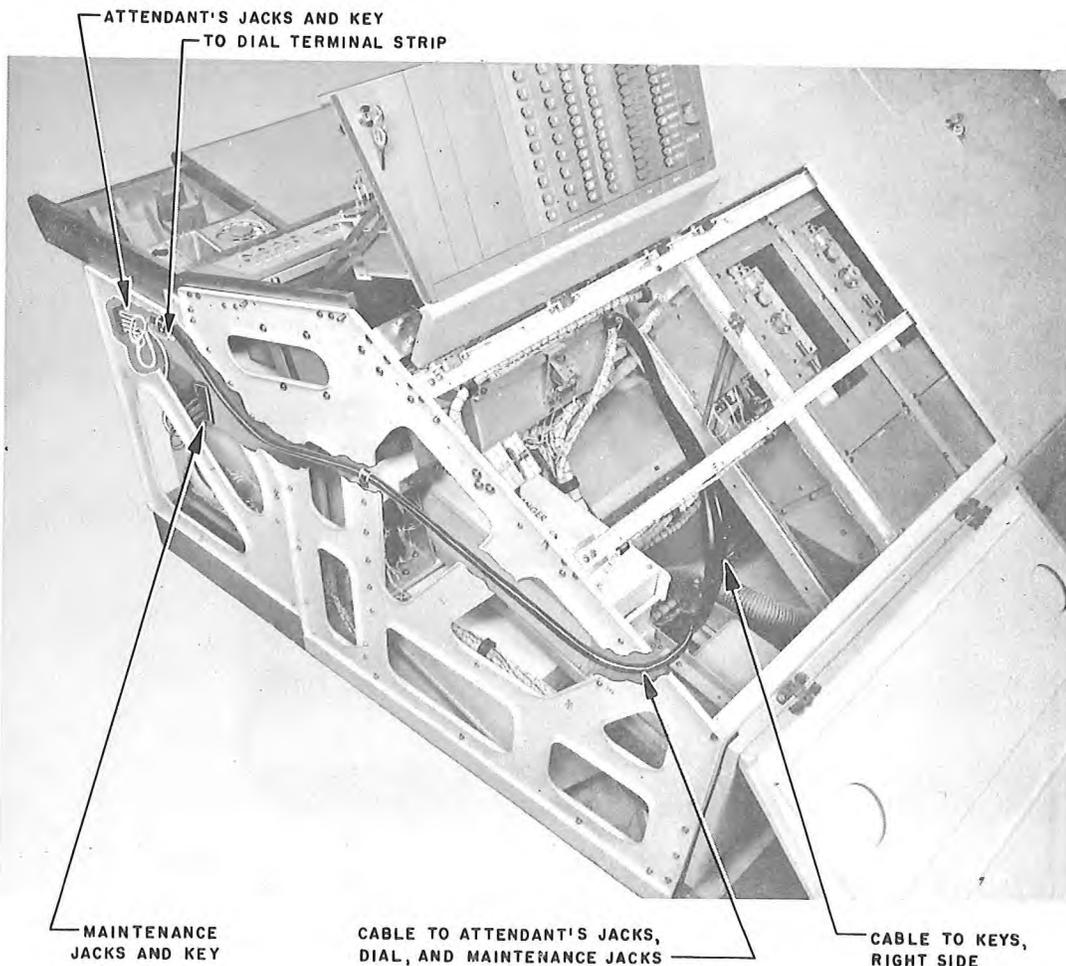

Fig. 32 — Command Desk, Right-side Rear View, Showing Cable Leading to Jacks Located in Right Leg
10.00 CONSOLE, COMMAND POST, COMMAND DESK (Fig. 32, 33, 34)